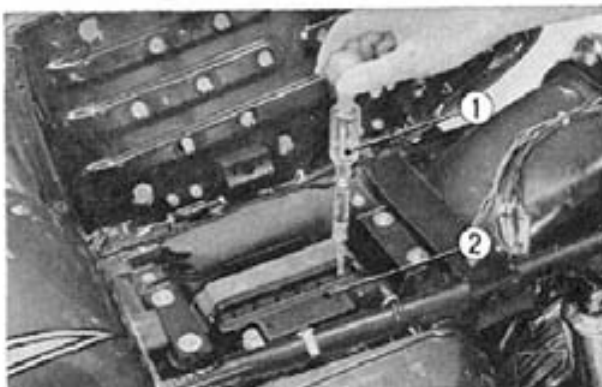

Fig. 19-15 ① Hydrometer
(2) Remove the battery cell caps and check electrolyte specific gravity in each cell with a hydrometer. (Fig. 19-15)